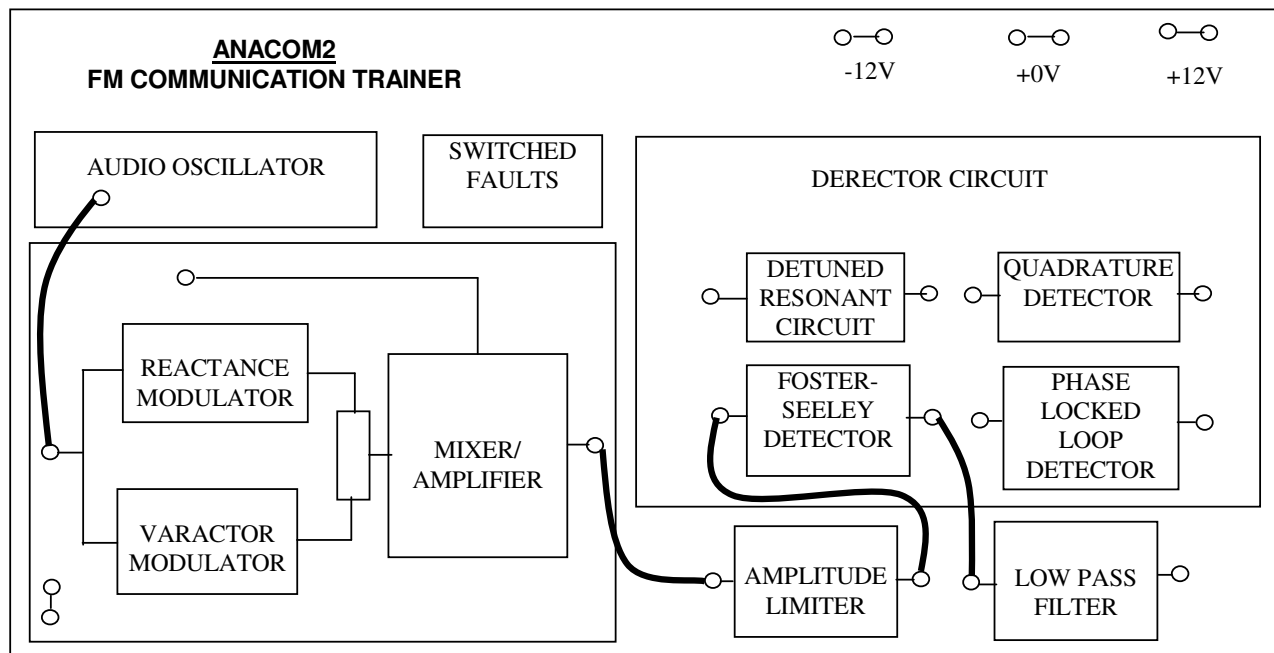

Fig.4
- 8) To reduce the amplitude variation connect the AMPLITUDE LIMITER as shown in Fig.4 and observe the signal at AMPLITUDE LIMITER output (at t.p.68) and at LOW PASS FILTER output (at t.p.73).